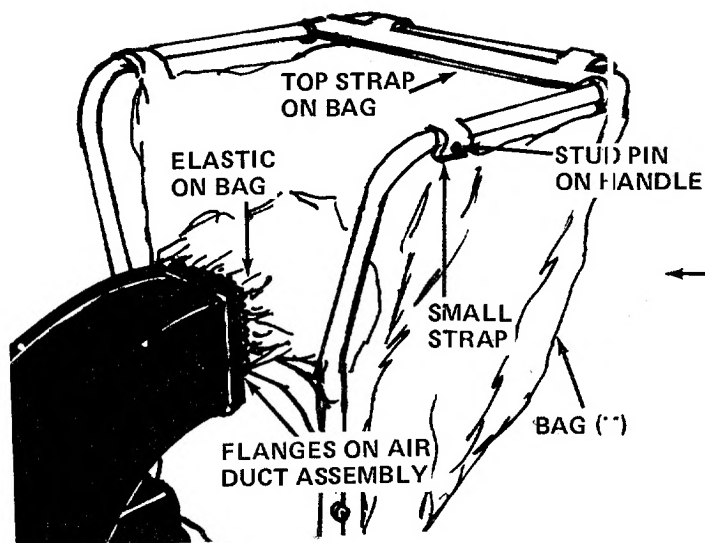

FIGURE 8
5. Assemble the bag by slipping the top straps on bag (T) over upper handle. Hook two small straps over stud pins on handle. Slip elastic opening of bag over air duct assembly. See figure 8.